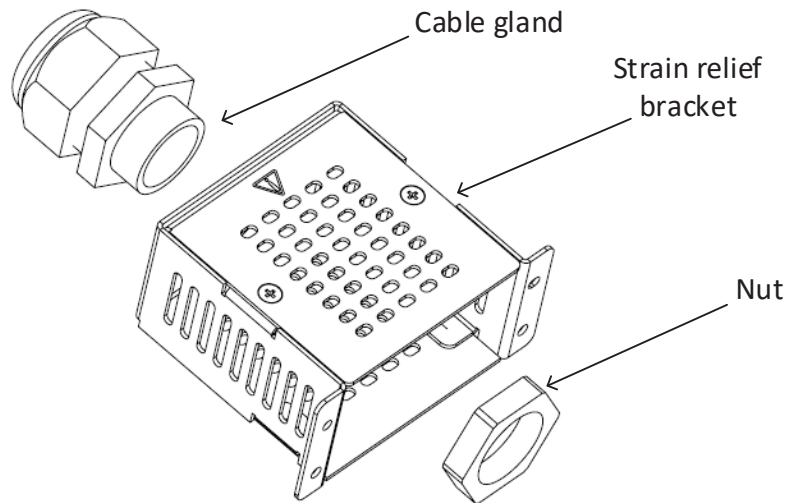

Figure 4-27: Insertion of the Plastic Nut into Strain Relief Bracket
2. Insert the Cable gland into the Strain relief bracket Assembly as shown in Figure 4-27.